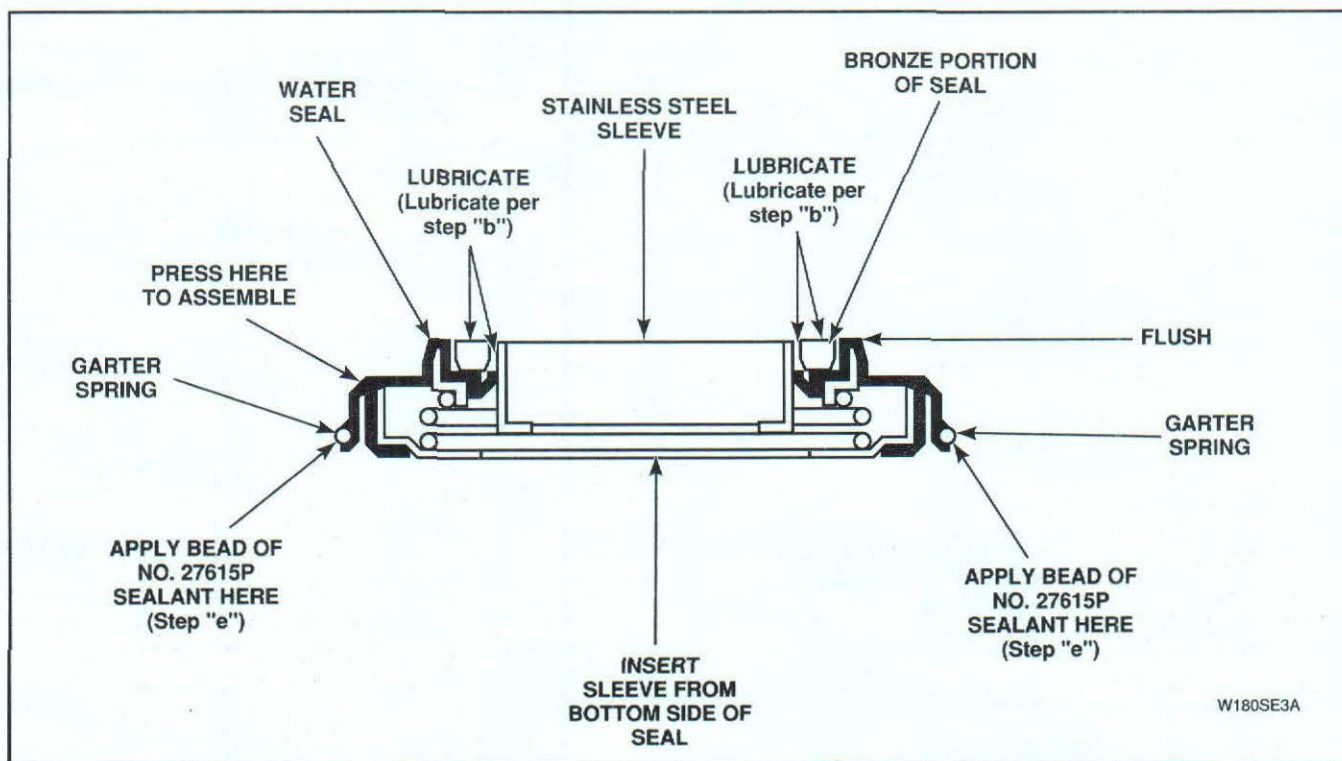

Figure 43
- b. Apply a light film of non-staining petroleum jelly (such as Vaseline) to bronze portion of water seal and to outer surface of stainless steel sleeve, *Figure 43*.
- c. Insert stainless steel sleeve into water seal from bottom side of seal, *Figure 43*, until sleeve is flush with bronze portion of seal.
- e. Carefully apply a small amount of No. 27615P Sealant (supplied with kit) around outer edge of seal and tub. (The area located just below garter spring, *Figure 43*.)